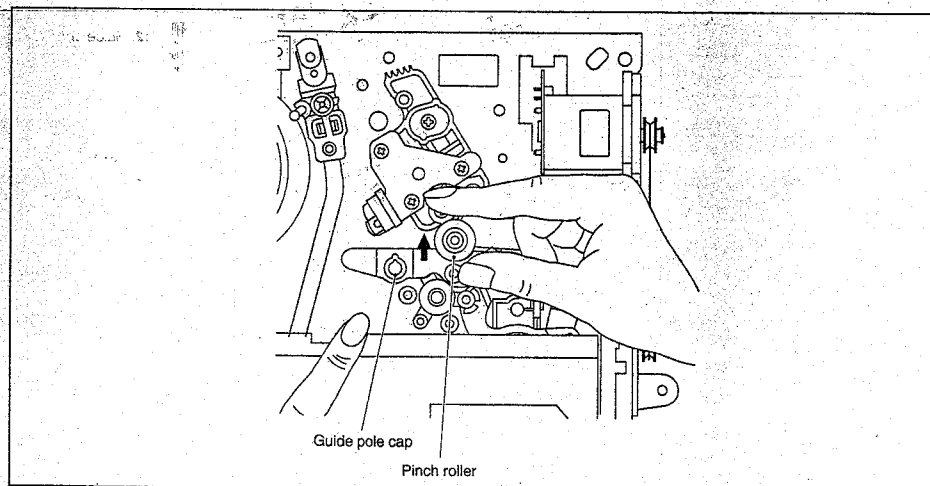

Fig. 2-1-4
- (3) Remove the top plate as done in Step (4) of "1" in case of electrical failures" and remove the guide pole cap at the same time. (See Fig.2-1-4).
- (4) While lifting the cassette tape lid, hold the cassette tape case and pinch roller by the fingers and move them toward the loading motor to relieve pressure on the tape. Then remove the tape while taking the cassette case out of the cassette holder. (See Fig.2-1-4).
- (5) Re-place the guide pole cap and take up the slack of the tape into the cassette.